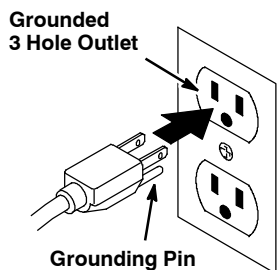

FIG. 7
2. Plug the power cord into a properly grounded wall outlet (Figure 7).